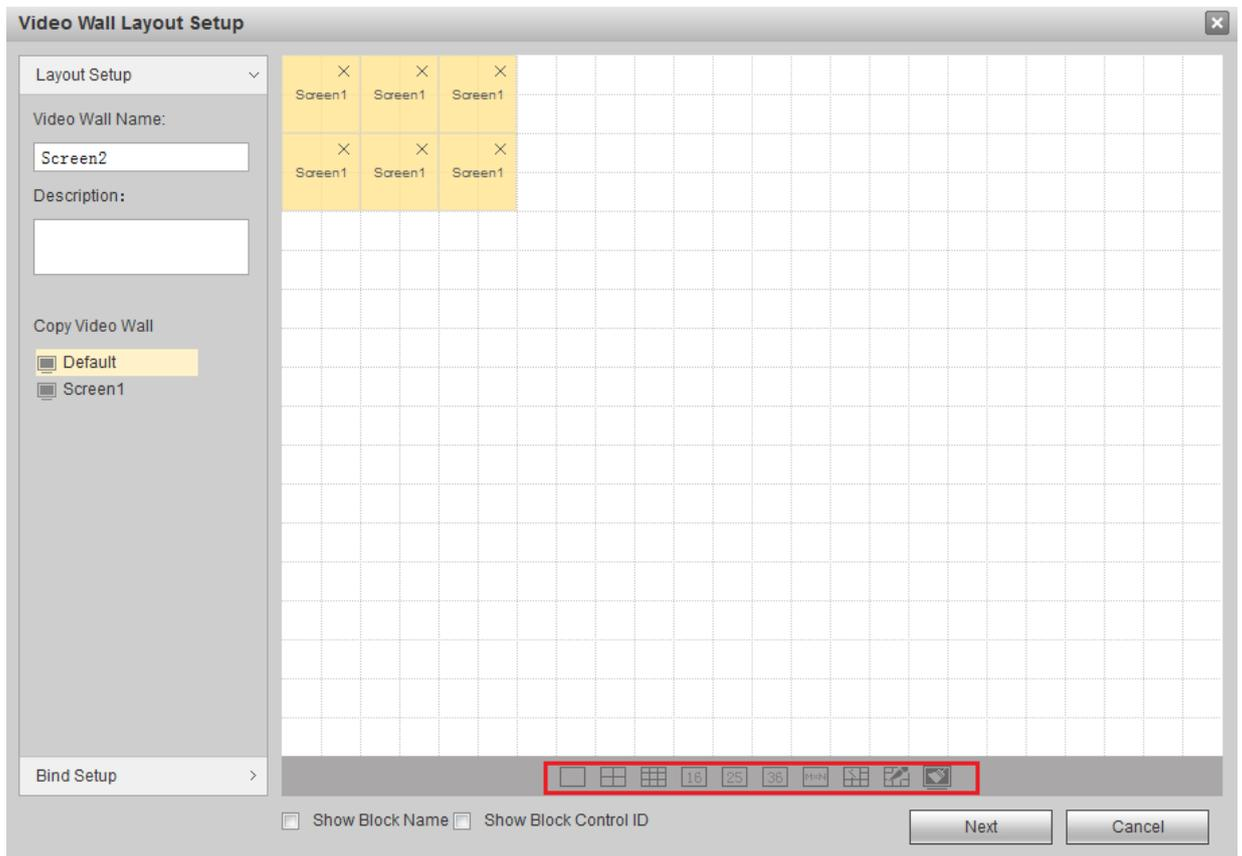

Figure 3-6
2. Click interface icons to add single video wall and splicing video wall quickly, as shown in Figure 3-6.